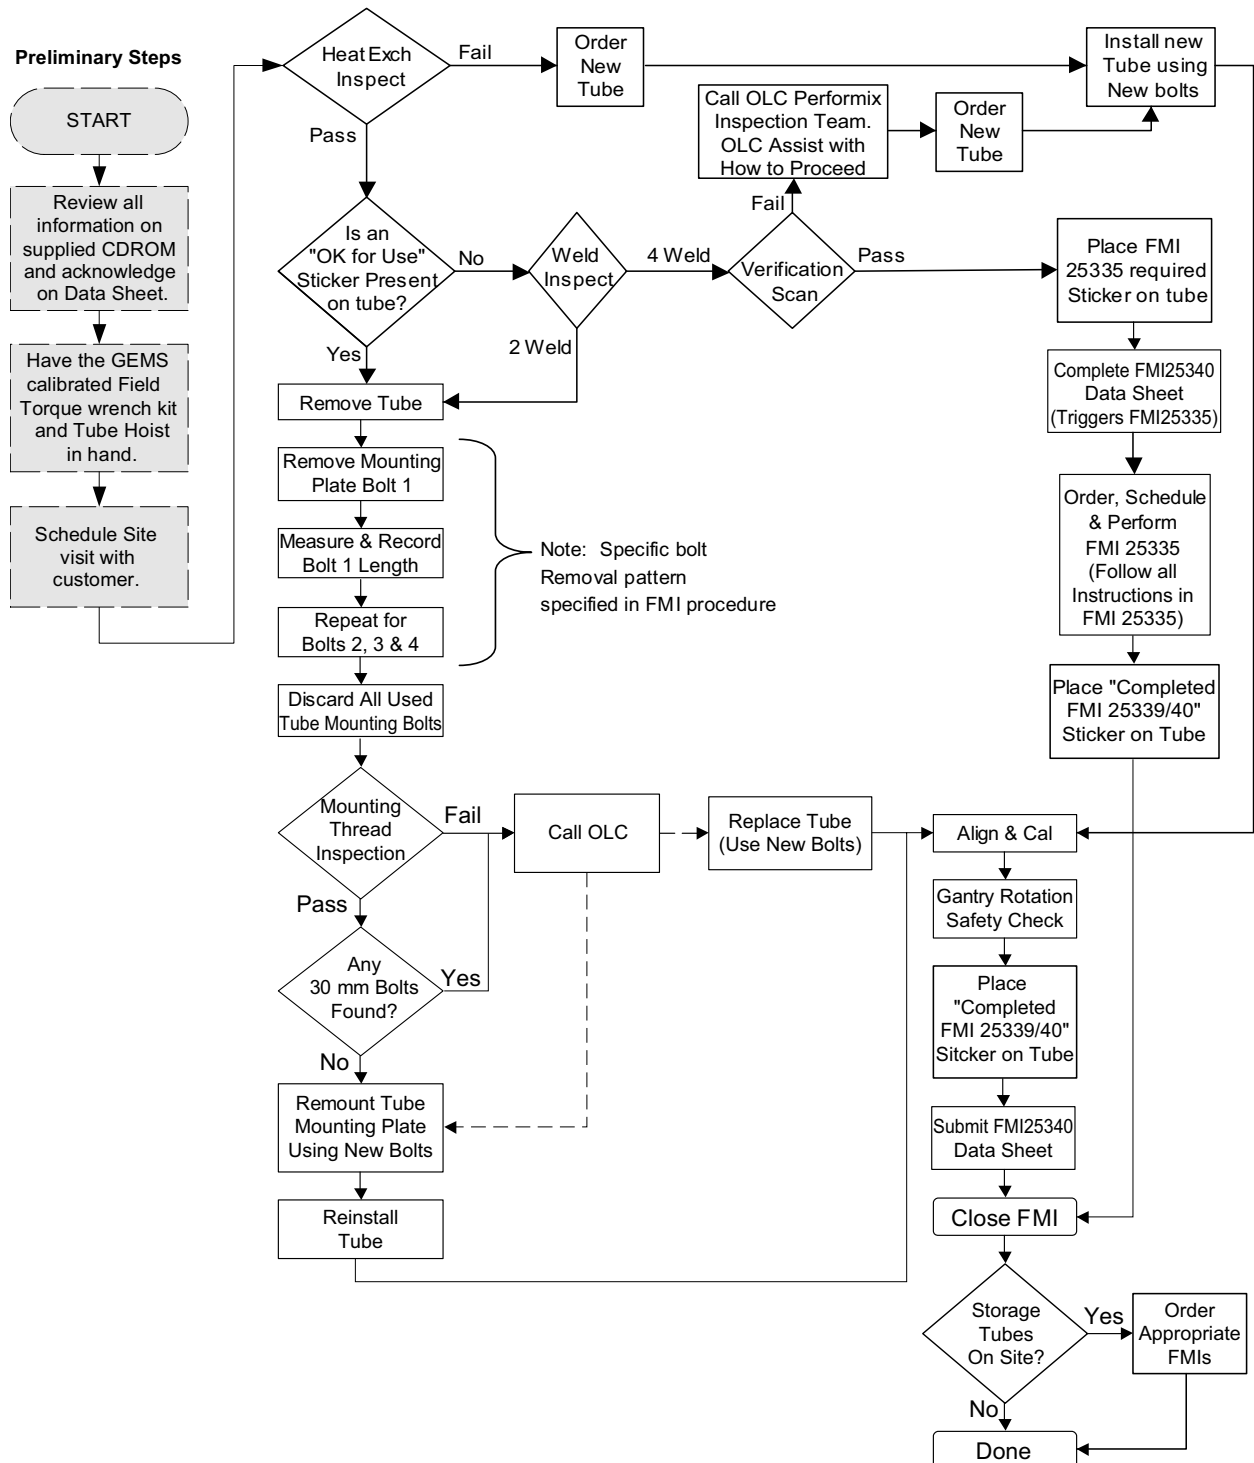

Figure 1 - Tube with mounting plate attached
- D3175T (Mounting Plate attached, see Figure 1) or 5110958-3
- D3176T (Mounting Plate attached, see Figure 1) or 5110958-4